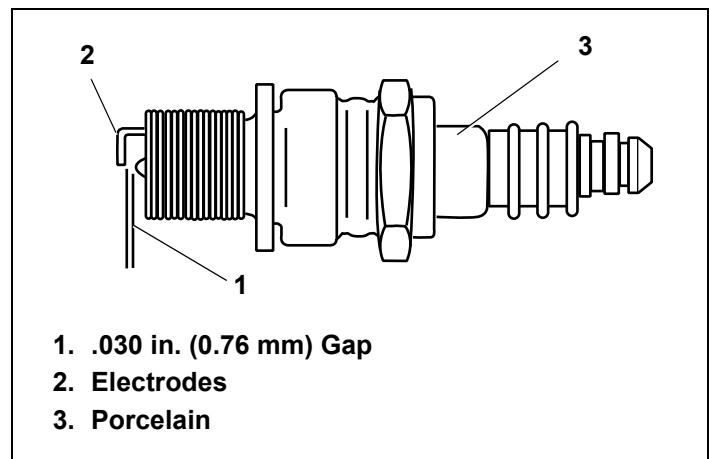

Figure 32. Resistor Spark Plug
4. Check electrode gap with wire feeler gauge and set gap to .030 in. (0.76mm) if necessary. See Figure 32.